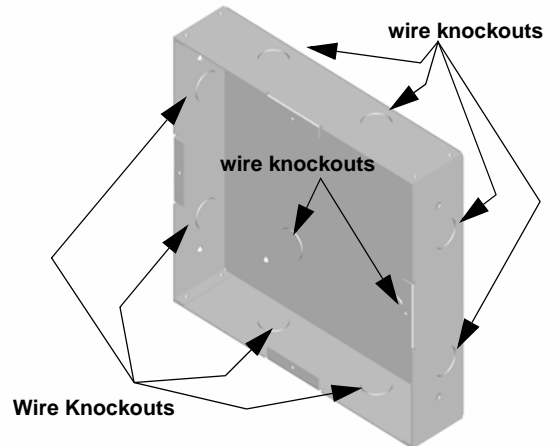

Figure 3: Backbox Knockout Locations
2. Remove knockout holes as needed for wires. See Figure 3 for backbox knockout locations
1. Remove the desired knock out. See Figure 3.